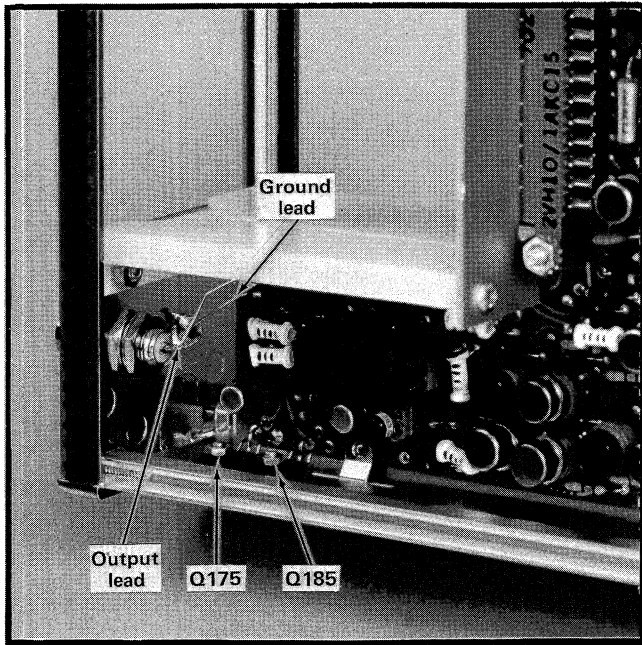

Fig. 4-2. Component locations pertinent to circuit board removal.
3. Remove the flat-head machine screw holding each of the flat-pack transistors Q175 and Q185 (front of the bottom rail). See Fig. 4-2.